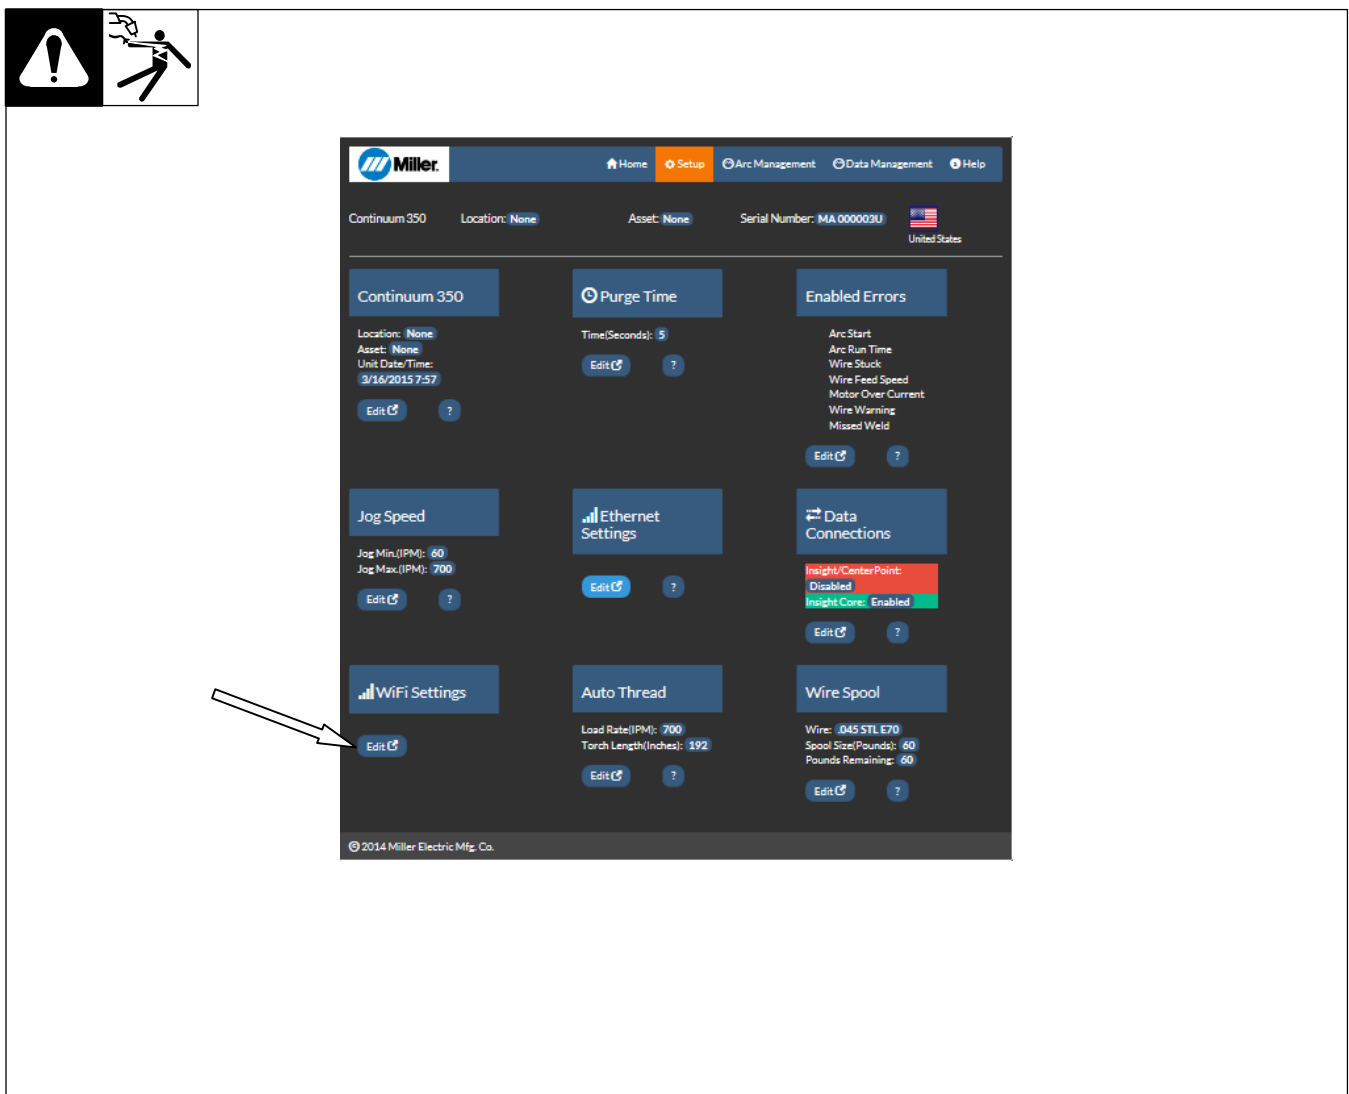

Figure 10-6. Editing WiFi Settings
1. On the Setup page, under **WiFi Settings**, click **Edit** (see Figure 10-6).